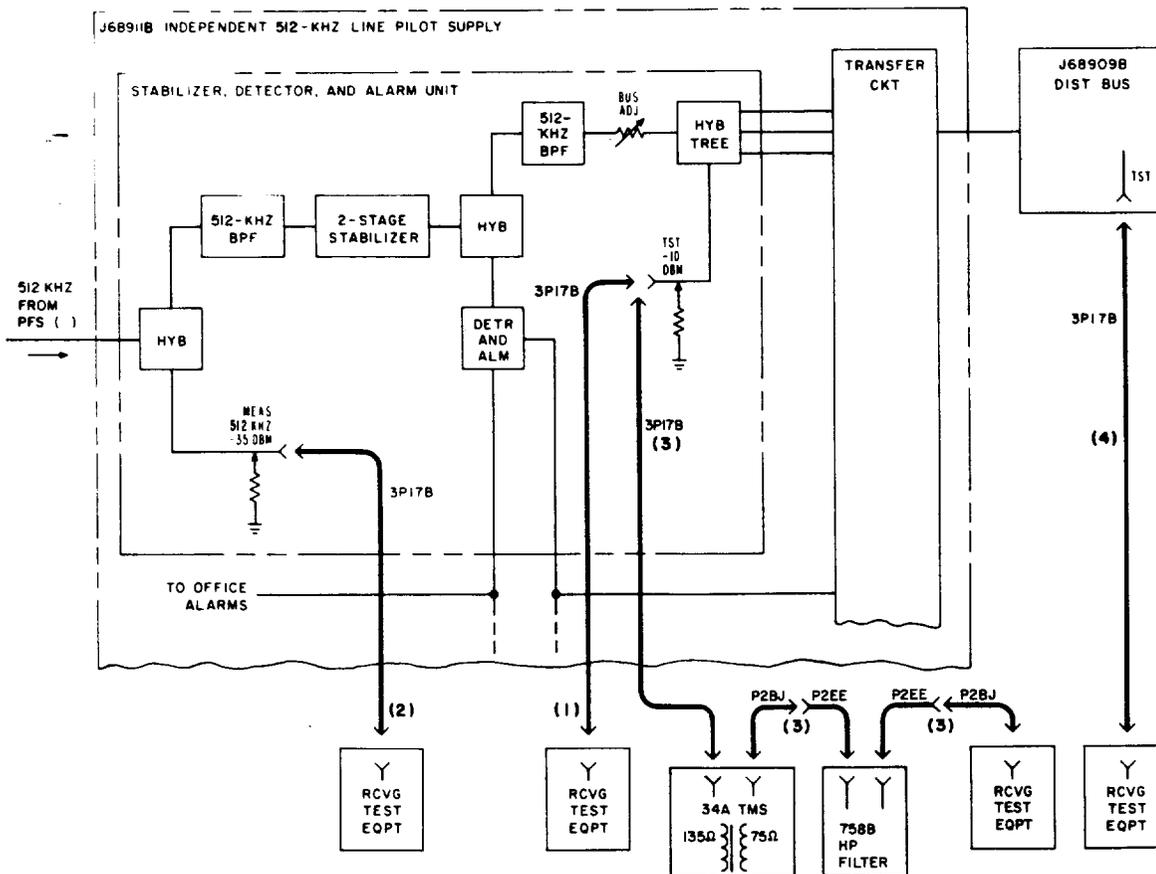

Fig. 3—Independent 512-kHz Pilot Supply and Distribution Circuit Test Connections
3	Measure the power of the 512-kHz signal at the TST -10 DBM jack on the idle stabilizer [patch (1), Fig. 3].
7	Measure the power of the 512-kHz signal at the MEAS 512 KHZ -35 DBM jack on the idle stabilizer [patch (2), Fig. 3].
3	Measure the power of the 1.536-MHz harmonic signal at the TST -10 dBm jack on the idle stabilizer [patch 3, Fig. 3].
3	Measure the power of the 512-kHz signal at the TST jack on the first J68909B distribution bus [patch (4), Fig. 3]. Requirement: -30 ± 0.1 dBm